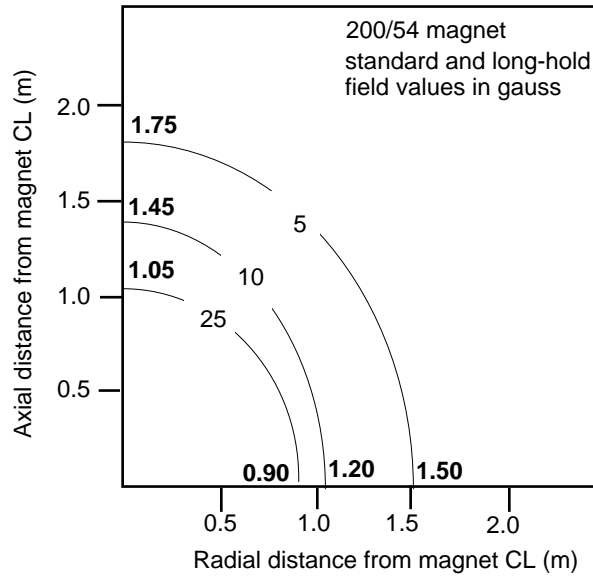
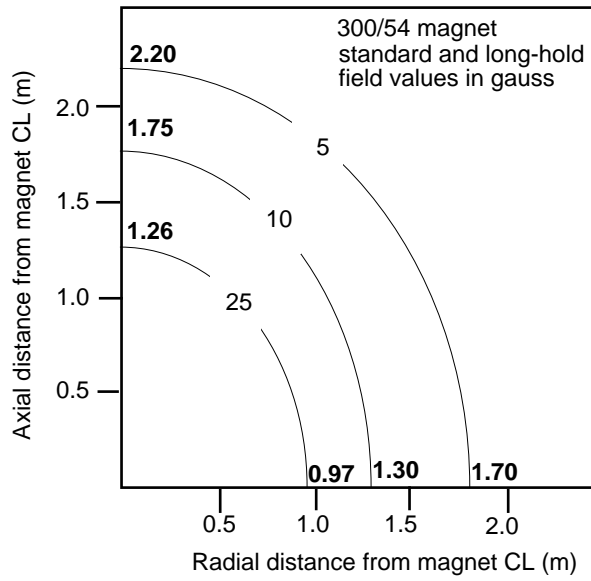
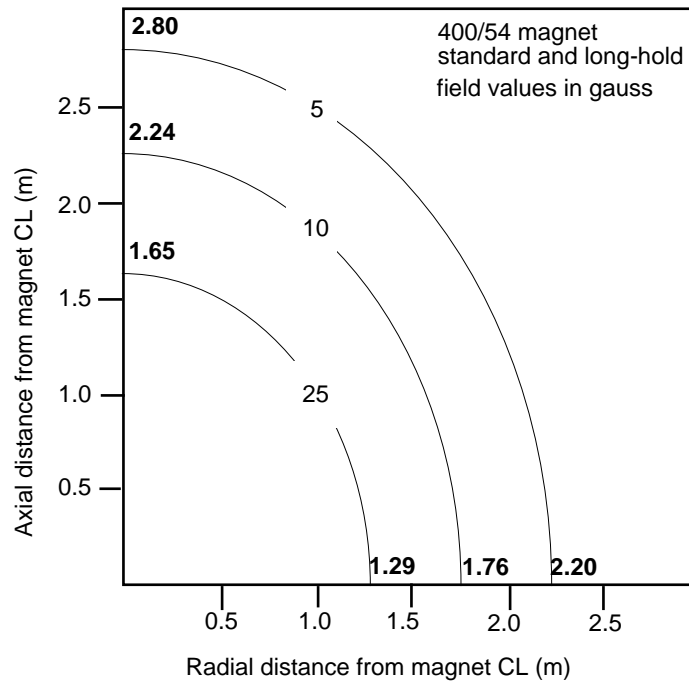

Figure 5. Stray Field Plots for 200-MHz Magnets
Figure 6. Stray Field Plots for 300-MHz Magnets
Figure 7. Stray Field Plots for 400-MHz Magnets
Figure 5, Figure 6, and Figure 7 show stray field plots for 200, 300, and 400 systems, respectively. The axial (vertical) and radial (horizontal) distances shown are measured in meters from the magnet centerline (CL). The values are typical but may vary between individual magnets. Gauss levels should be checked after a particular magnet has been installed.